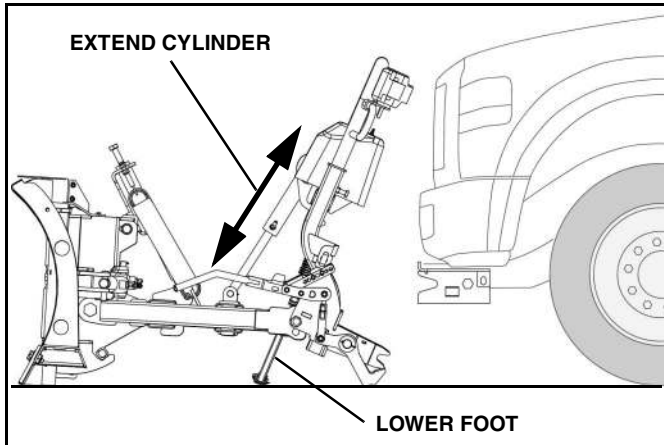

Figure 1-35
2. Using Down Pressure™, extend the cylinder (lower the plow) until the lift cylinder is fully extended. Lower the foot. (See Figure 1-35).